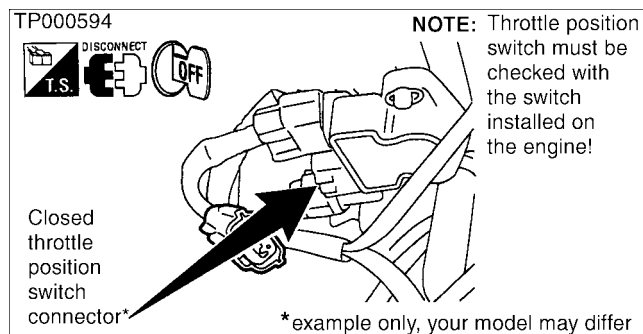

Figure 1
2. Disconnect the harness connector (see Figure 1) from the closed throttle position switch (CTPS) portion of the throttle position sensor (TPS).